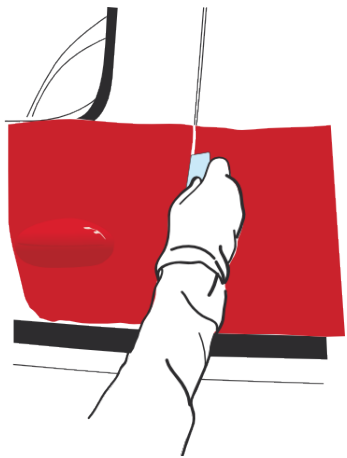

Figure 34
- › To finish, run the squeegee over the cut. Incline the squeegee towards the thinner edge. (FIG. 34). Firmly apply the film over the edges, round parts and neighbouring or opposed areas.